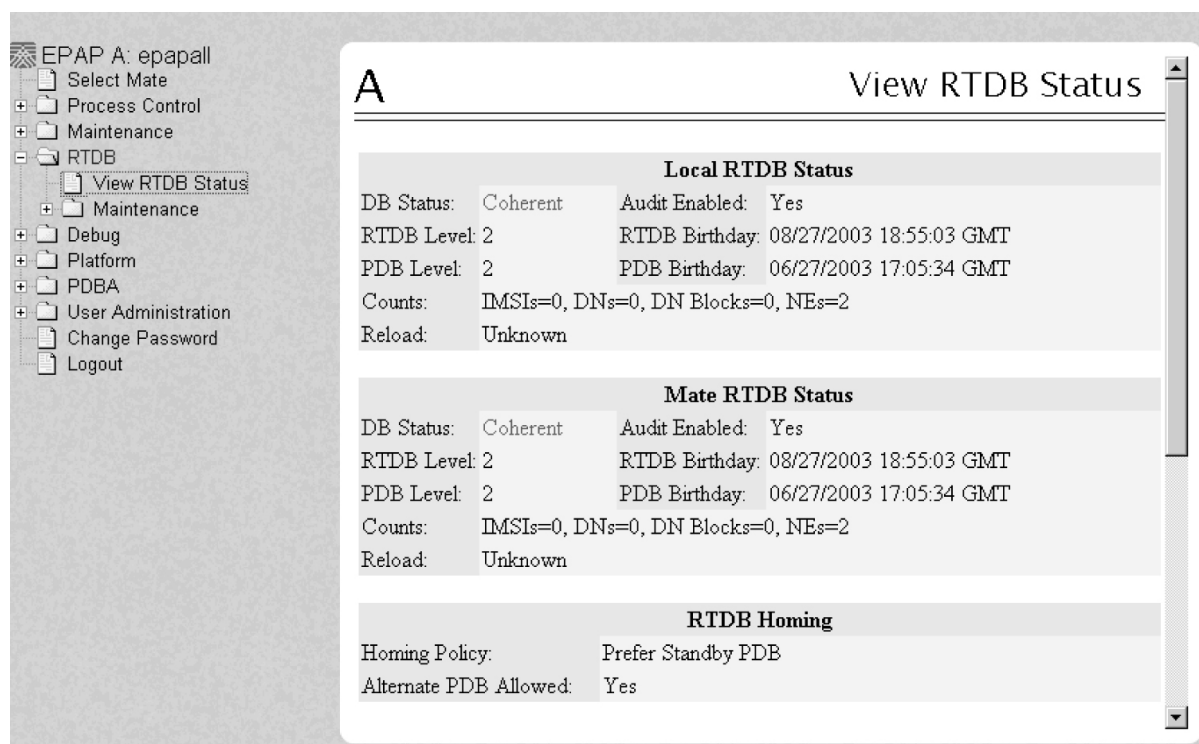

Figure 31: Coherent RTDB Status
8. Select **RTDB>View RTDB Status** to verify that the RTDB status on both sides is coherent, as shown in Figure 31: Coherent RTDB Status.